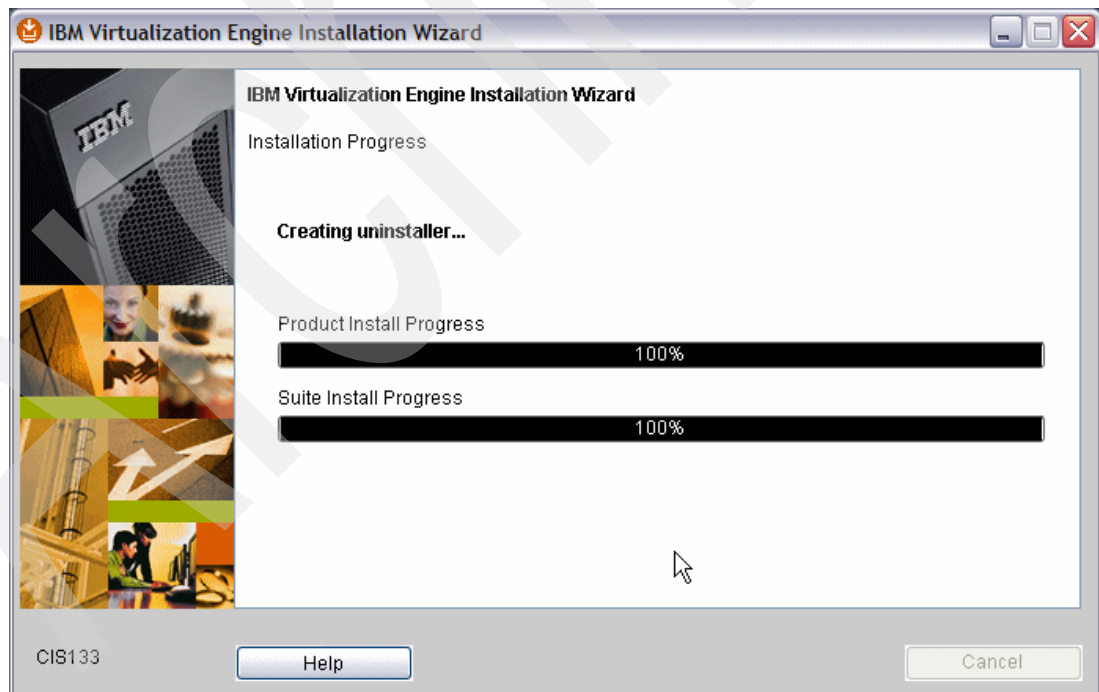

Figure 5-25 Installation progress window uninstaller IBM Director Server
20. An Installation Progress window (Figure 5-25) opens to indicate the installation progress of creating the uninstaller for IBM Director Server.